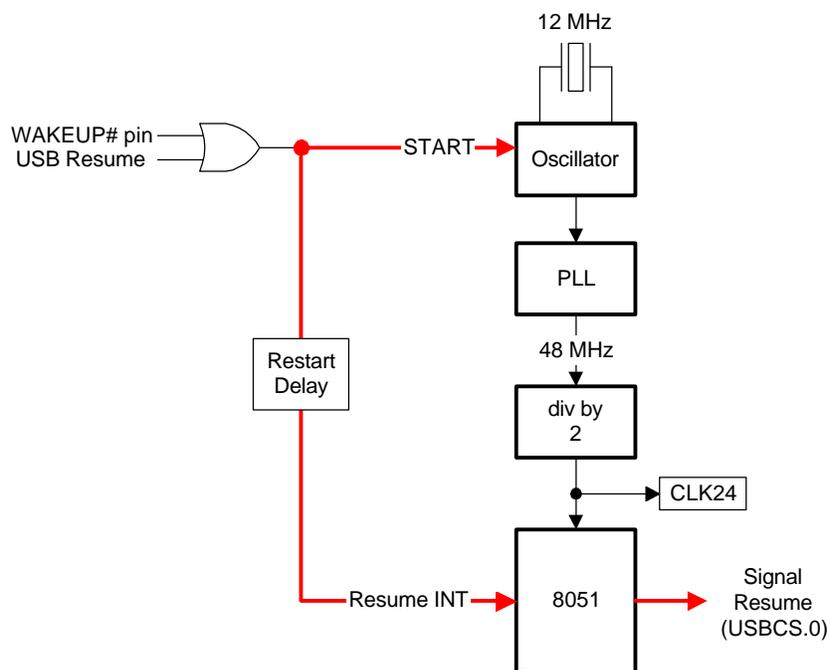

Figure 11-3. EZ-US Resume sequence
- A. USB bus activity resumes (shown as “USB Resume” in Figure 11-3), or